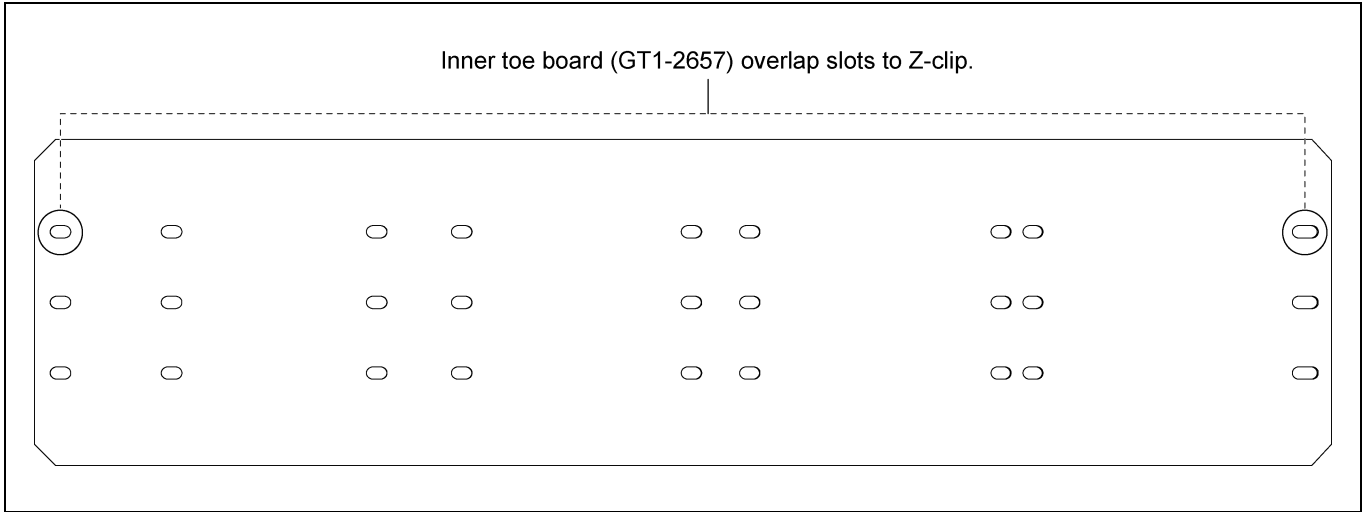

Figure 6L 17' Inner Toe Board (GT1-2657)
3. Inner toe board is arranged with overlap slots on each side. Install 17' offset and roof hatch inner toe boards (GT1-2657) to corresponding slots as shown in Figure 6L.